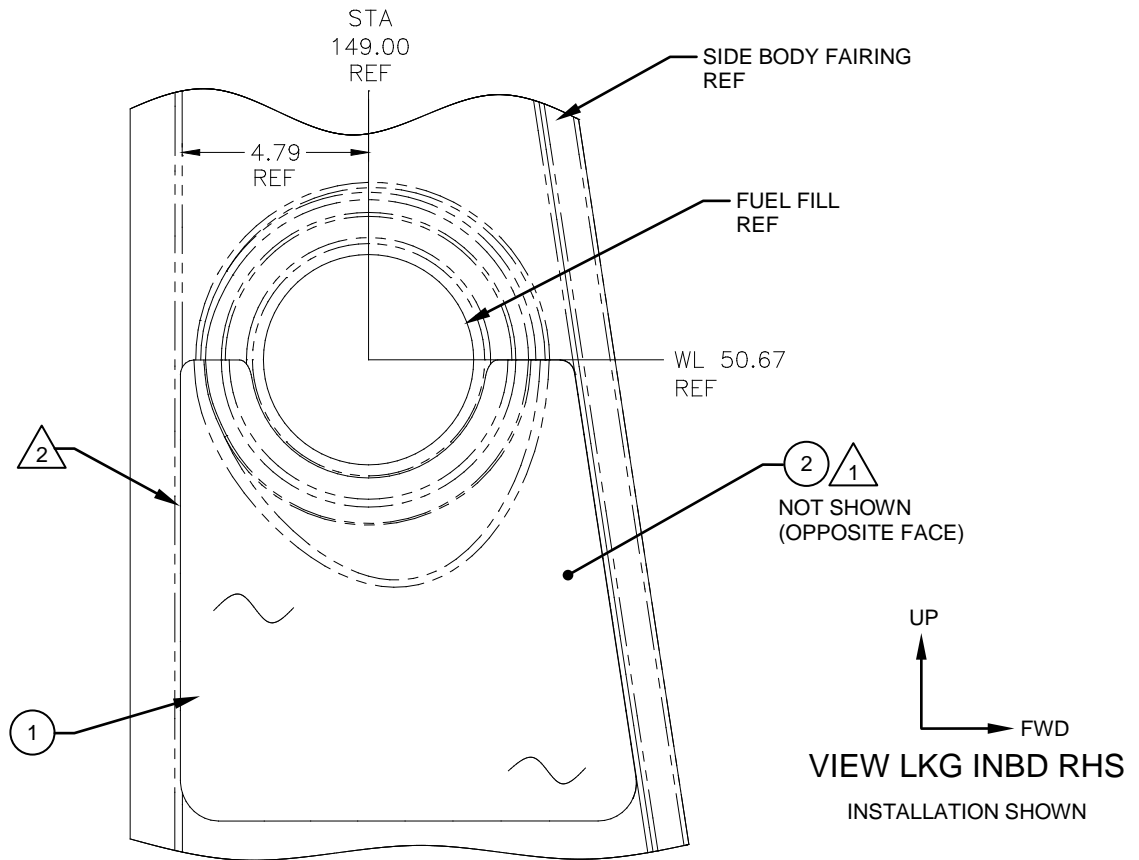

Figure 2
5. Apply the Sealant, Item 2, to the faying surfaces of the Panel Guard, Detail/Side Body Fairing and install as shown. Reference Figure 2.
7. Once the Sealant has set-up, apply a bead (fillet) of Sealant around the entire perimeter of the Panel Guard, Detail. Reference Figure 2.